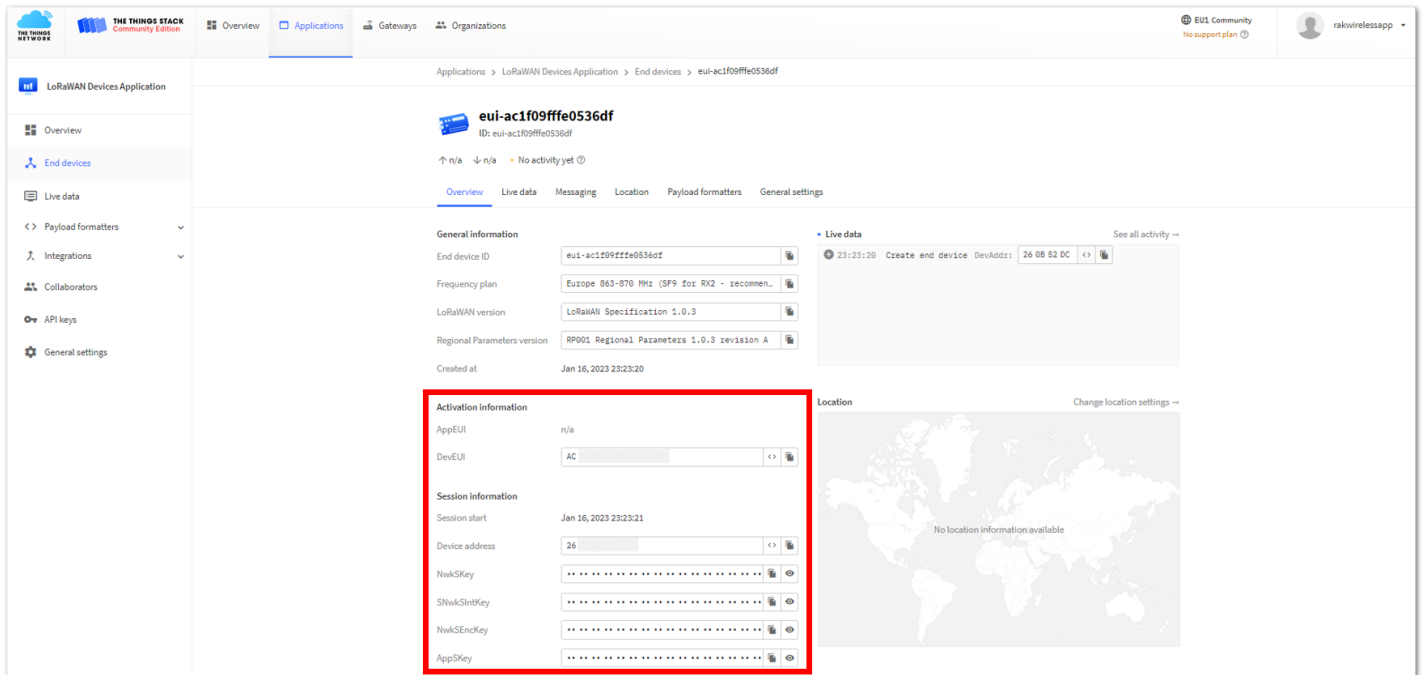

Figure 142: ABP device successfully registered to TTN
6. You should now be able to see the device on the TTN console after you fully register your device, as shown in **Figure 142**.